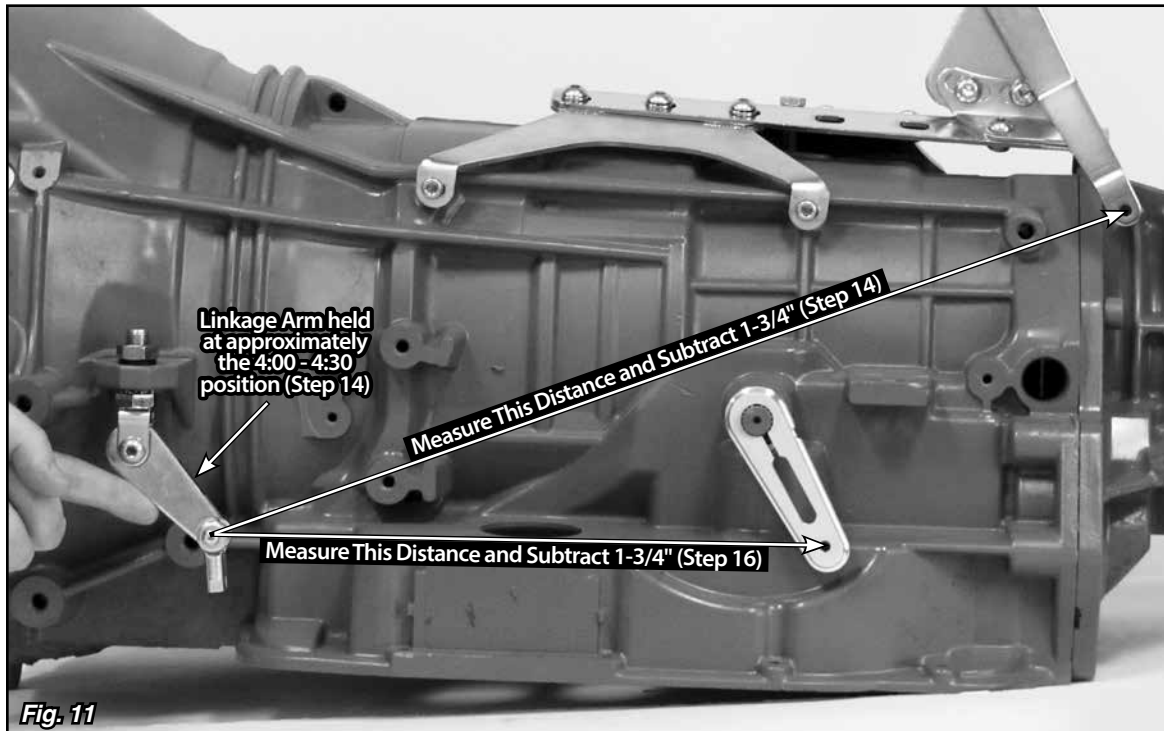

Fig. 11
Verify that both the shifter lever and the transmission are in the Park position. Hold the linkage arm at approximately the 4:00 - 4:30 position. Measure center-to-center from the 1/4"-28 button head bolt in the bottom of the linkage arm on the transmission to the 1/4" hole in the quad lever on the shifter assembly. Subtract 1-3/4". **Fig. 11** This is the length you will cut the long threaded rod to. Use a hacksaw or cutoff wheel to shorten the long threaded rod, and then, de-burr the cut end of the rod.
Step 16: The short threaded rod will connect the linkage arm to the billet trans arm. Check to make sure that nothing will interfere with the travel of the short threaded rod. **If there is any interference, the short threaded rod can be bent slightly as needed.** Measure center-to-center from the button head bolt in the bottom of the linkage arm to the center of the 1/4" hole in the bottom of the billet trans arm. Subtract 1-3/4". **Fig. 11** This is the length you will cut the short threaded rod to. Use a hacksaw or cutoff wheel to shorten the threaded rod, and then, de-burr the cut end of the threaded rod.